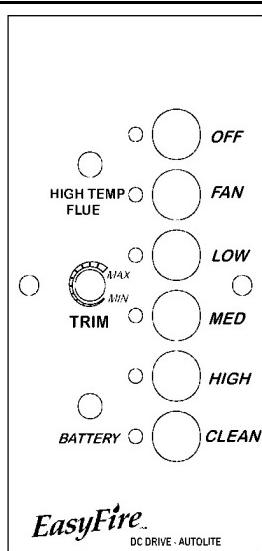

Figure 13
- C. In the **MEDIUM** position the EASYFIRE will be feeding approximately three (3) pounds of pellets per hour and the flame will fluctuate between 3" and 8" of fire.
3. Starting the Stove: Push a Heat Range button (Low or Medium is best for start up) (**Figure 13**) and turn the thermostat up to "Call for heat". The stove fan will begin to operate along with the ignitor cycle. After about a minute the pellets will begin to fall in the burn pot. After five minutes there will be a fire in the burn pot and the stove will begin to heat up. When the stove reaches start up operating temperature it will then switch to the control panel setting and begin its automatic operation cycle.